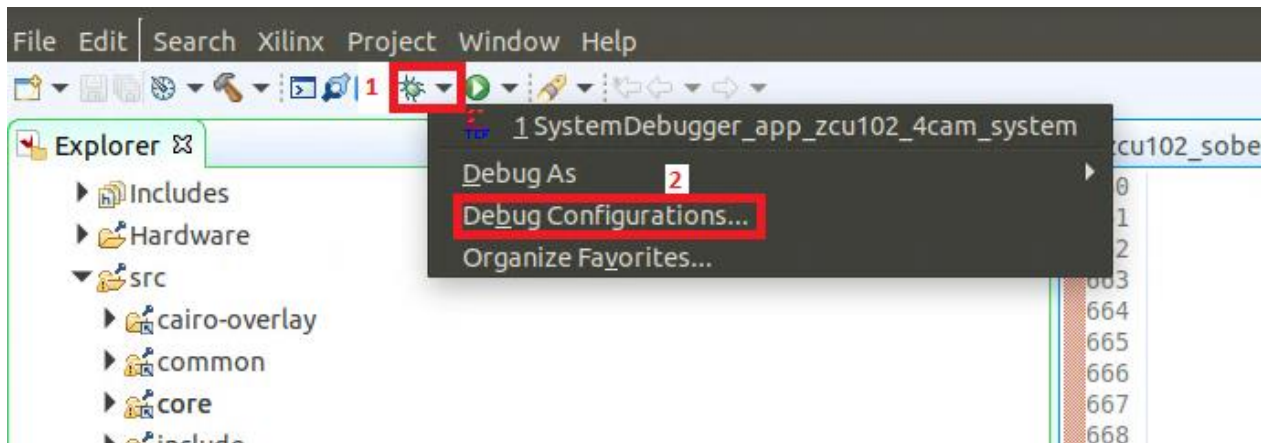
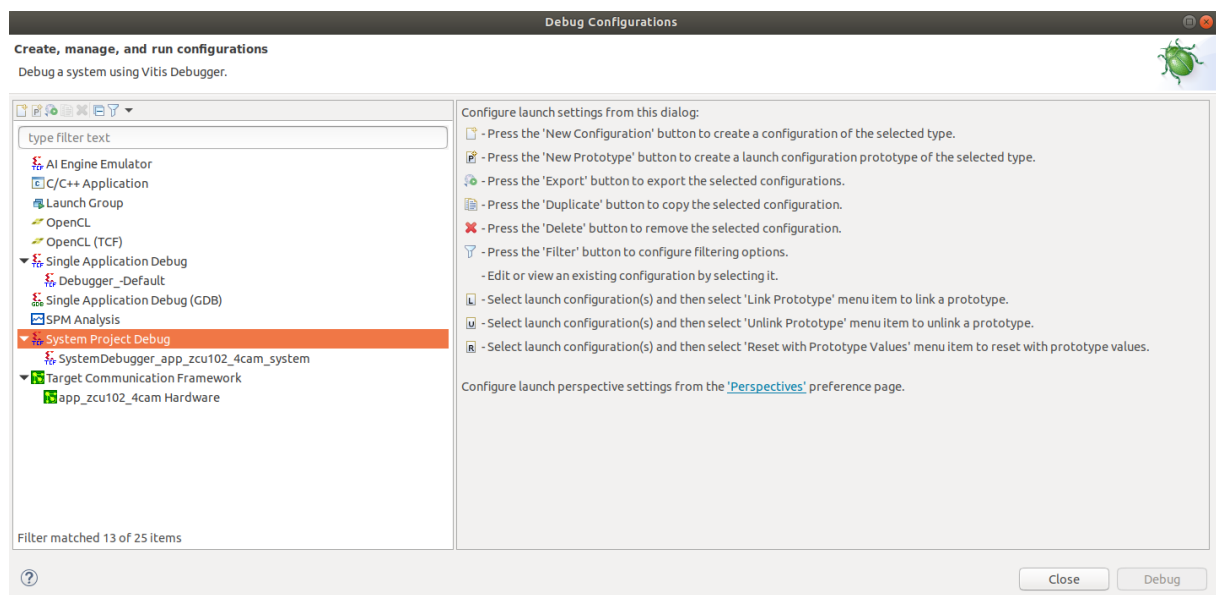

Figure 25: Vitis Workspace – Open Debug Configurations
Figure 26: Vitis Workspace – Debug Configurations
2. Open **Debug Configurations** window (Figure 25). To create a new Debug Configuration, double click on the **System Project Debug** section on the left hand side of the Debug Configuration GUI (Figure 26).
| 3.0.1   | December, 6 th ,2019 | A. Stanisic             |             | Updated to Xilinx tools (Vivado Design Suite, SDK and PetaLinux) version 2019.1.Fixed Figure 25 (HDMI-CAM and FOUR-CAM designs were switched).Unified GMSL2 and FPD-Link III documentation.                                         |
| 3.0.2   | April 28 th , 2020       | R.Soldat                |             | Added 26 and modified Figure 25 to only show HDMI GMSL2 Setup instead of both.                                                                                                                                                              |